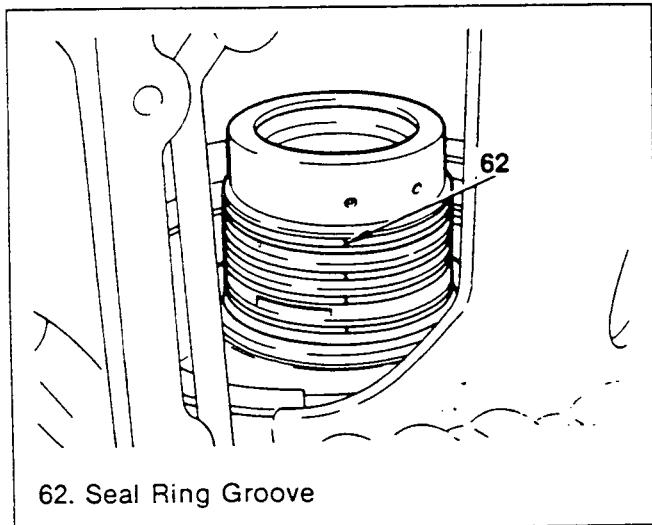

Figure 253. Forward Clutch Seal Ring Installation
### Forward Clutch Assembly (Figures 253 and 254)
1. Remove the tape, etc which was used to prevent the forward clutch assembly from spreading from the low one-way clutch seal ring, and push the seal ring into the groove using Vaseline (figure 253).